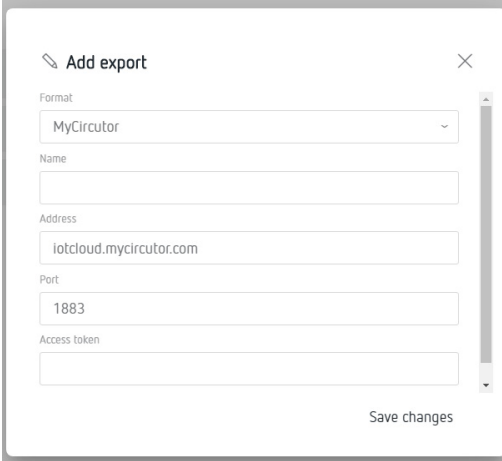

Figure 41:Export screen: Add Export.
Press  **Add export**, to select and configure the Cloud platform, the screen shown in **Figure 41** will appear.
6.- Copy the Token and enter it into the configuration website of the device, **Figure 41**.